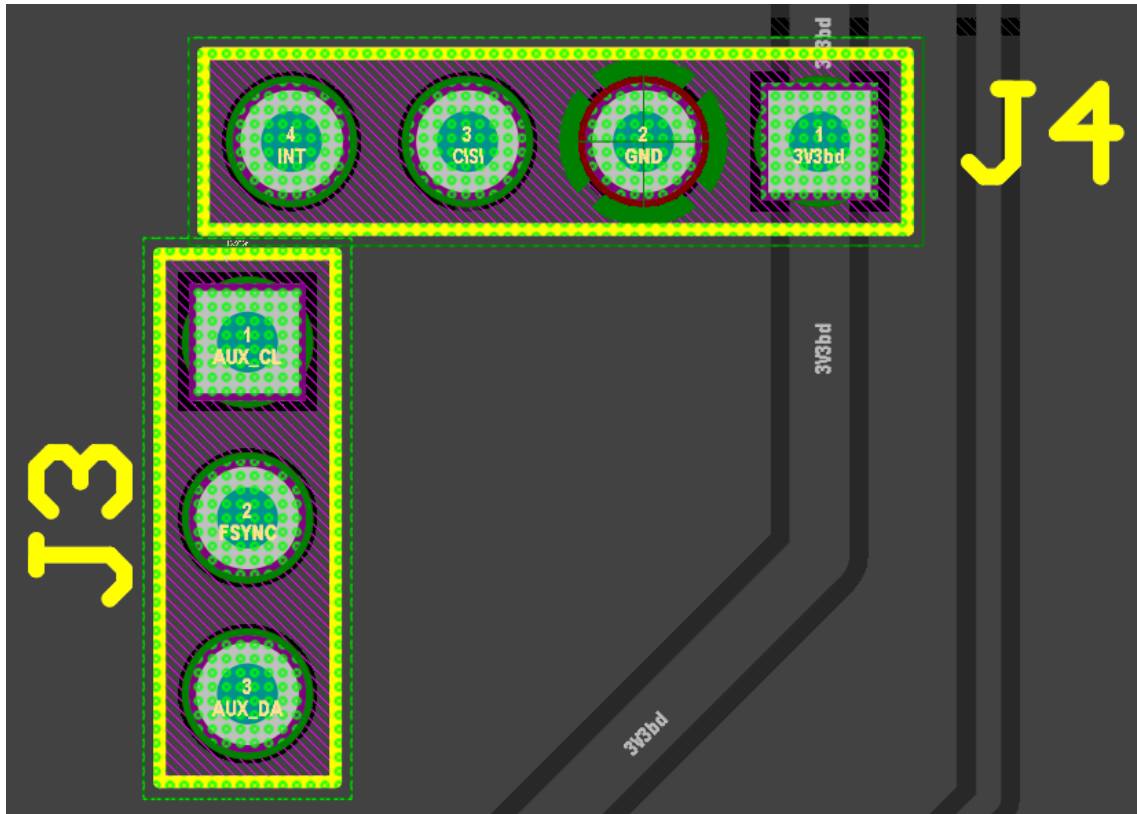

Figure 11. Violating components in the PCB
22. Left-click on the **Component Clearance Constraint** violation again from *Violations* list. The workspace should zoom to the violating primitives and mask the rest of the board except for the primitives shown in Figure 11.